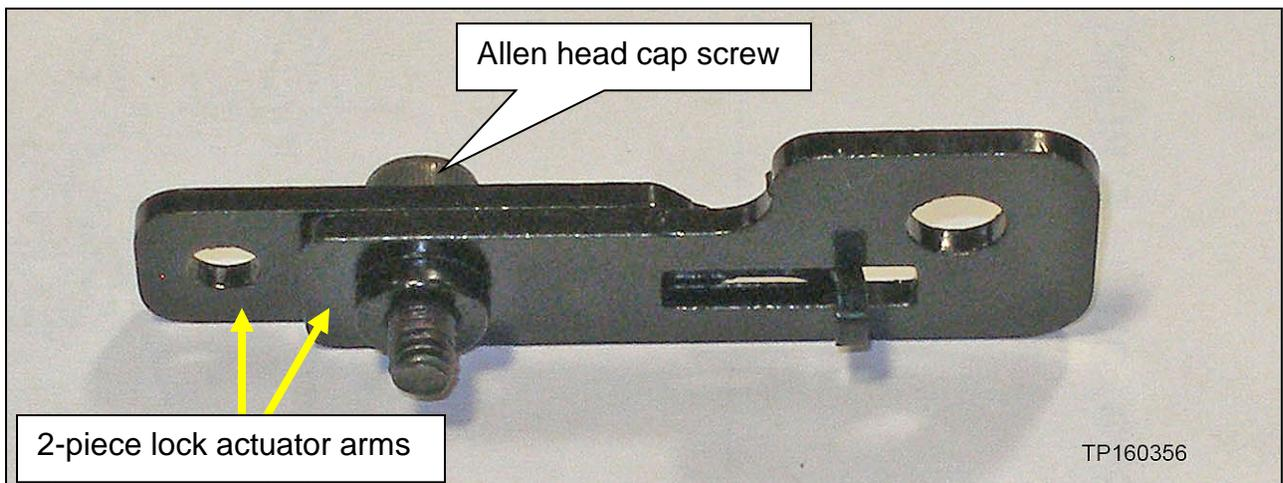

Figure 10
- d. Clean the new 2-piece lock actuator arms with the cleaning pad, then assemble finger tight (for now) with the provided Allen head cap screw (Figure 10).